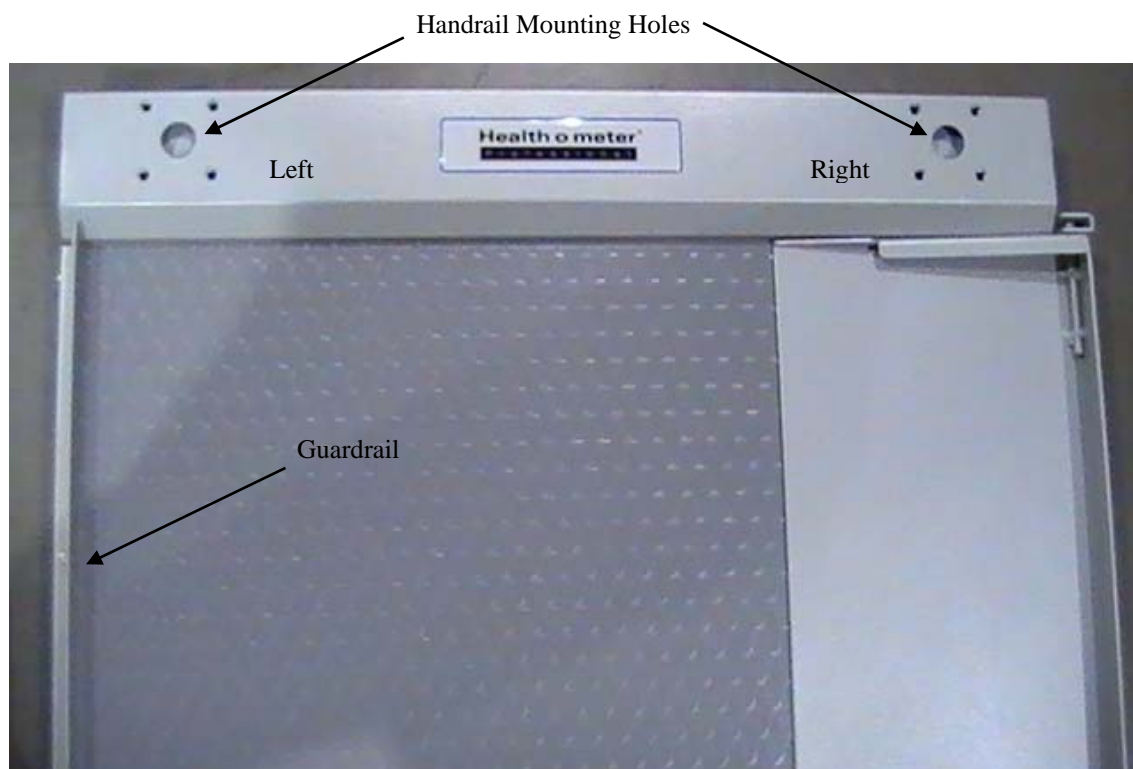

Figure 3
4. Position the handrail over the left and right handrail mounting holes array on the platform (see Figure 3).
2. On the side of the platform opposite to the ramp, remove the guardrail mounted to the end of the platform by unscrewing and then removing the 4 guardrail assembly screws (see Figure 3).